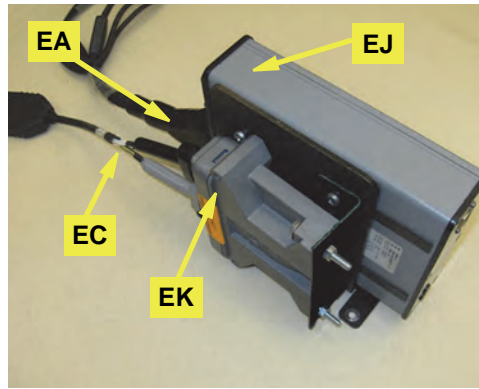

Figure 2a: Installed ECU and steering controller cables
- a. If not already attached, attach main cable **EA** to **EJ** using an Allen wrench to secure the cable. The **EA** connector only connects with the **EJ** socket that is in line with the power and communications indicators at the opposite end of the ECU - the lower socket in this installation (Figure 2a).
Attach steering controller cable **EC**'s two 12-pin plugs to the corresponding gray and black connectors on the steering controller **EK** (Figure 2a).